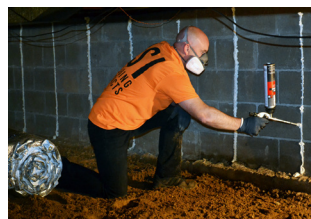

FIGURE 2
Step 2: For enhanced R-Value, 3/4 inch treated wood, foam board or spray foam furring strips (Fig. 2) can be used to create air space between Insul-Barrier and the wall. Attach furring strips to the foundation wall using concrete fasteners or spray adhesive. Furring strips should be placed on 24" centers and extend from the bottom of the Viper Double Bond Tape to the bottom of the wall.